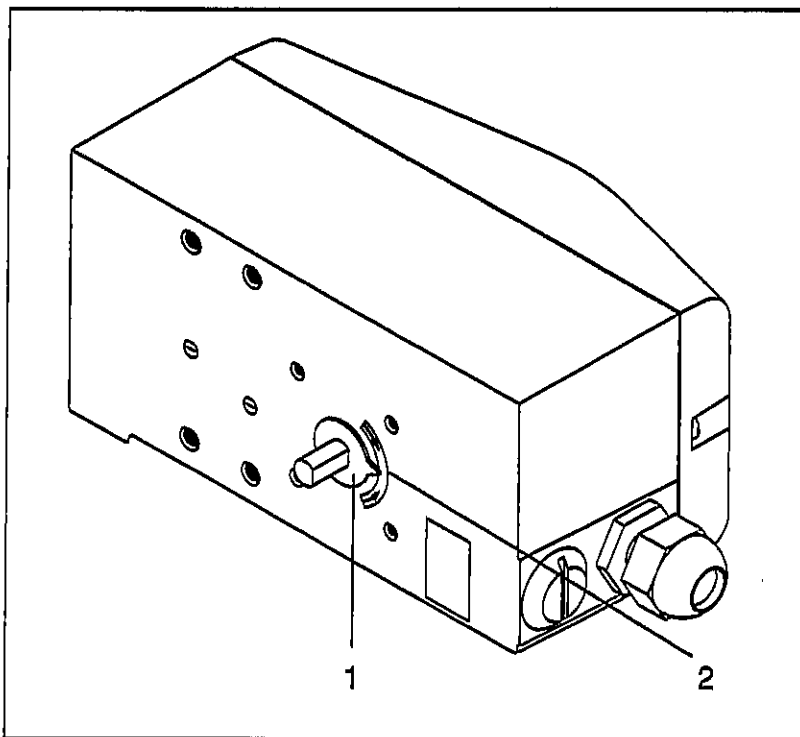

Fig. 7 Operating range
The arrow (1) on the feedback shaft (and thus the lever) must travel within the area marked with the small arrows (2) (see Fig. 7).
- On the basis of the mounting position, the home position, as well as the direction of rotation it must be determined in which position the feedback shaft (1) of the positioner must be pre-adjusted and in which position the adapter (2) must be placed, to enable the positioner to travel within the proper range (the arrow on the rear of the device must travel within the admissible range, see Fig. 7 on page 10).
- Place the adapter on the feedback shaft in the appropriate position and fix it by setscrews (3); ensure that one of the setscrews is engaged on the side of the feedback shaft with the flat.